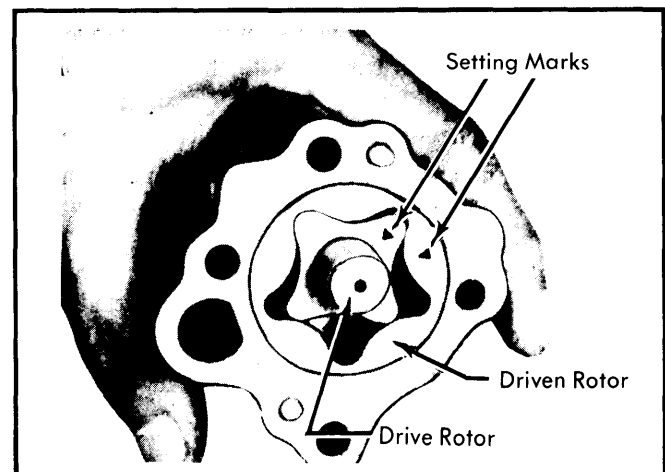
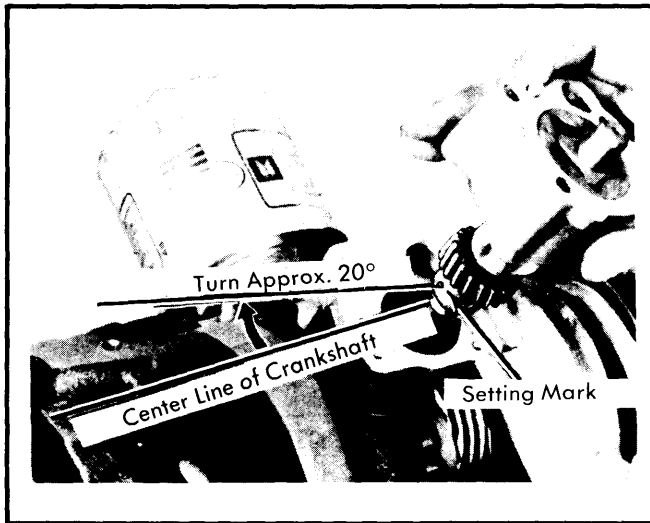

Fig. 11 Aligning Rotor Timing Marks
Fig. 12 Installing Oil Pump
2) Install driven rotor so timing marks align with drive rotor, Fig 11. Install oil pump, engaging drive gear with crankshaft pinion gear. Setting mark on drive gear should be rearward and approximately 20 degrees clockwise from crankshaft centerline. (See Fig. 12).